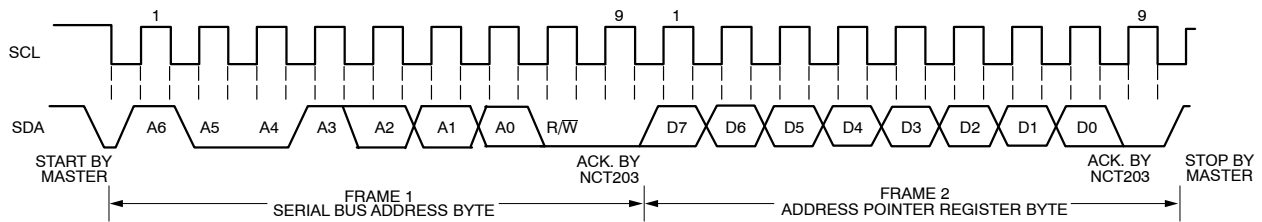
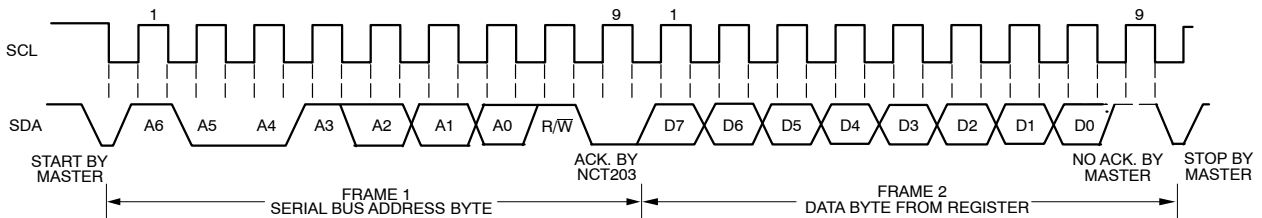

Figure 4. Writing to the Address Pointer Register
Figure 6. Reading a Byte of Data from a Register
This procedure is illustrated in Figure 4. The device address is sent over the bus followed by R/W set to 0. This is followed by two data bytes. The first data byte is the address of the internal data register to be written to, which is stored in the address pointer register. The second data byte is the data to be written to the internal data register.
- If the address pointer register value of the NCT203 is unknown or not the desired value, it is first necessary to set it to the correct value before data can be read from the desired data register. This is done by writing to the NCT203 as before, but only the data byte containing the register read address is sent, because data is not to be written to the register see Figure 4. A read operation is then performed consisting of the serial bus address, R/W bit set to 1, followed by the data byte read from the data register see Figure 6.